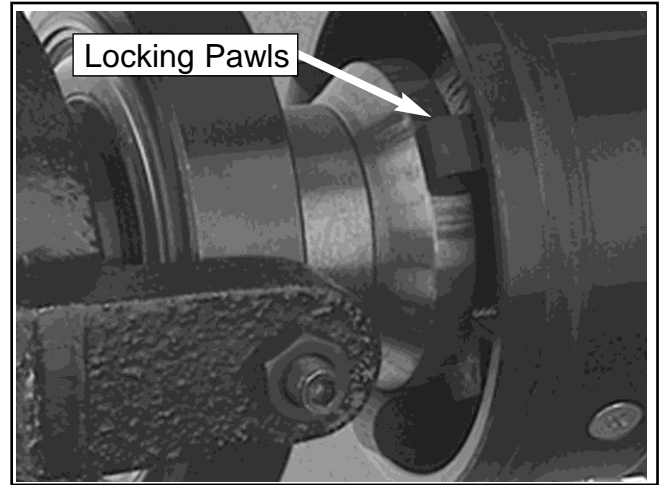

Figure 12. Locking pawls in locked position on the cam lobe.
1. Position the locking pawls so they are in the correct position on the cam as shown in **Figure 12**.
The Model collet Closer is adjusted properly when the 3 collet locking pawls are tight on the cam and the workpiece will not twist in the collet. Again, **Figure 12** on **page 7** shows the proper locked position of the collet locking pawls around the cam.